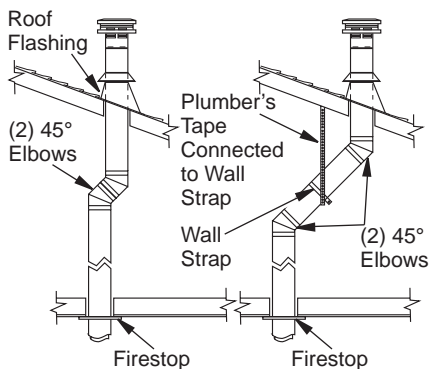

Figure 24 - Vertical Cent Pipe Offsets
1. Determine route your vertical venting will take. If ceiling joists, roof rafters, or other framing will obstruct venting system, consider an offset (see Figure 24) to avoid cutting load bearing members.
4. Connect a section of pipe and extend up through hole. If an offset is needed to avoid obstructions, you must support vent pipe every 3 feet. Use wall straps for this purpose (see Figure 24, page 15). Whenever possible, use 45° elbows instead of 90° elbows. The 45° elbow offers less restriction to the flow of flue gases and intake air.
5. Place flashing over pipe section(s) extending through roof. Apply a bead of silicone or roof sealer to the bottom flange of flashing and secure base of flashing to roof and framing with roofing nails. Be sure roofing material overlaps top edge of flashing as shown in Figure 24, page 15. There must be a 1" clearance from vent pipe to combustible materials.
Note: You must increase vent height for steep roof pitches. Nearby trees, adjoining rooflines, steep pitched roofs, and other similar factors may cause poor draft or down-draft condition (see Figure 24, page 15). Increasing vent height may solve this problem.